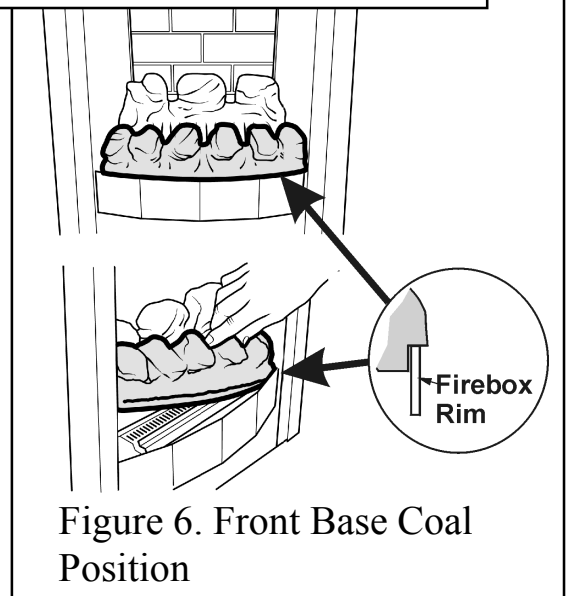

Figure 6. Front Base Coal Position
3. Place the front base coal in the firebox with its bottom front locating over the front rim of the firebox. Pull the coal forward so that it locates immediately behind the front rim of the firebox. See figure 6.